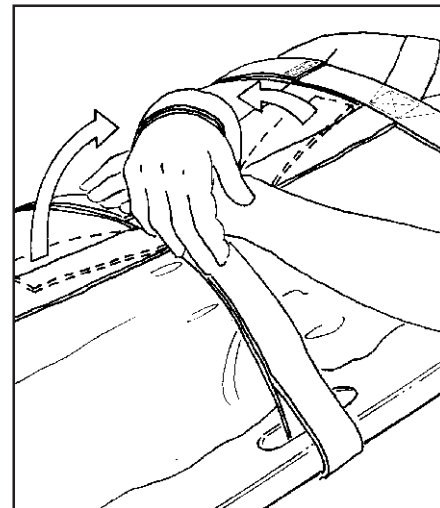

Figure 7 - Wrists Secured by Wrist Restraints
- On top of the pelvis, using the wrist restraint (Figure 7).